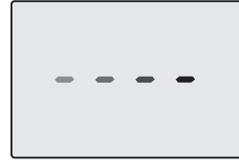
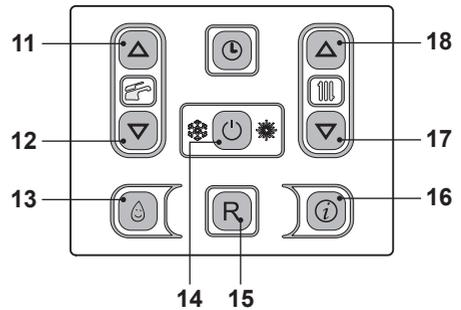

Fig. 7.10
Fig. 7.11
- Electrically power the boiler by switching on the double pole isolation switch. The LCD will display, the  symbol (Fig. 7.10).
- Press the 14 key for 2 seconds until both  and  symbols appear on the display Fig. 7.11.
- Switch off the boiler by pressing the 14 (Fig. 7.11) key for 2 seconds until the - - - - symbol appears on the LCD display (Fig. 7.10).
Press the reset key on the boiler control panel 15 (Fig. 7.11) to reset its functioning.